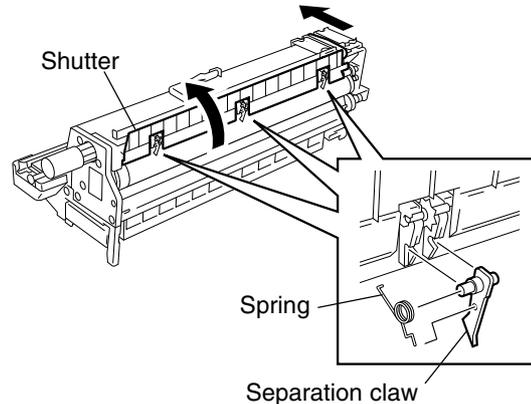

Fig. 3-4-1
2. Detach the separation claw. (See Fig. 3-4-1.)